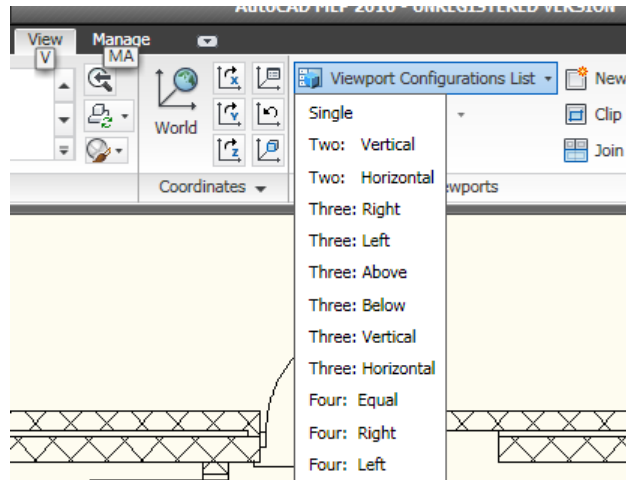

Figure 6.77
16. On the View, tab on the Viewports panel, click the Viewport Configurations List drop-down button and then choose **Two: Vertical** (see Figure 6.77).